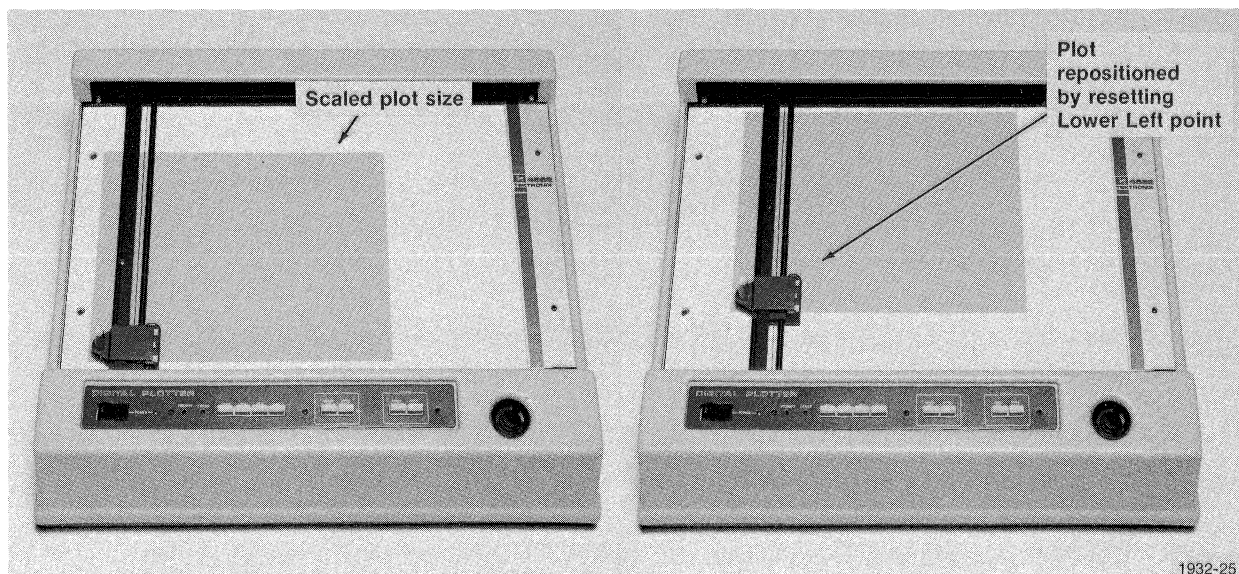

Fig. 3-2. Page Scaling and Positioning using the SET Controls.
4. Press the LOCATE buttons (LOWER LEFT and UPPER RIGHT) one at a time to verify that new page boundaries have been established. All incoming data intended for the full size page will now be scaled down and plotted within this area. (Refer to Fig. 3-2.)
3. Press the LOCATE buttons (UPPER RIGHT and LOWER LEFT) one at a time to verify that the previously-scaled page boundaries have been moved to the new location. (Refer to Fig. 3-2.)